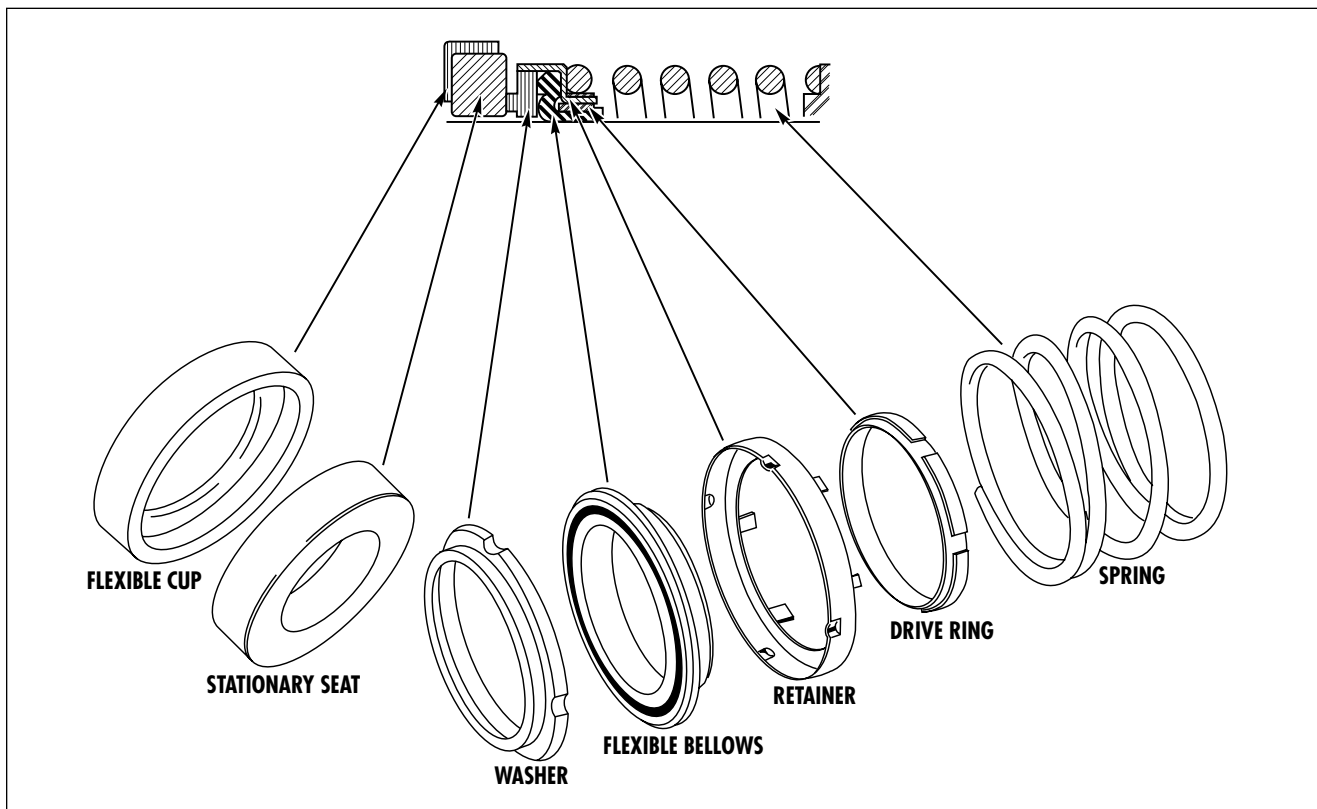

Figure 1. Mechanical Seal
The mechanical seal (see Figure 1) is a precision product and must be treated as such. During removal, great care must be taken to avoid dropping any part of the seal. Take particular care not to scratch the lapped faces on the washer or the sealing seat. If any wear of the seal faces is noted, it is recommended to replace with a new seal during reassembly.
- Apply a film of liquid dishwashing detergent to the washer and bellows of the seal, and slide the remaining parts onto the shaft, making sure the washer is seated against the seal seat. Check the proper sequence of assembly as indicated in Figure 1.